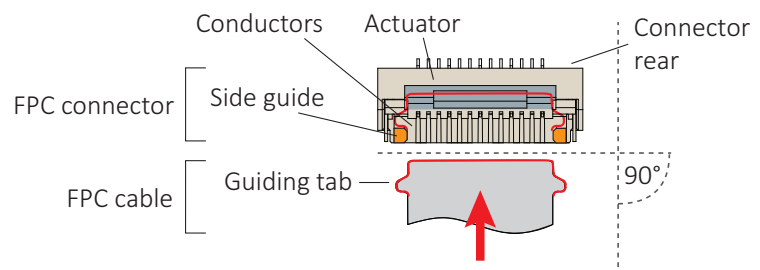
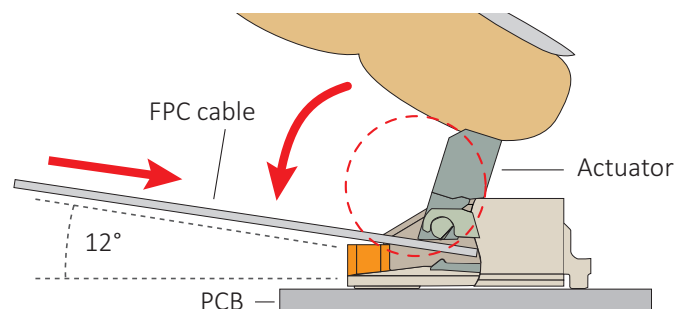

Figure 85: FPC cable and FPC connector
Figure 86: Engaging the FPC cable in the FPC connector
2. **Ensuring proper cable direction between host and camera**, take the FPC cable with conductors facing the FPC connector conductors (see Figure 85).
At a horizontal angle of 90 degrees to the connector's rear (see Figure 85) and at a vertical angle of 12 degrees to the PCB (see Figure 86), slowly insert the FPC cable into the actuator...
4. ...until cable guiding tabs are caught between connector rear and side guides (see Figure 85). Pull the cable slightly to ensure guiding tabs are properly engaged.
5. Holding the FPC cable in position, flap down the actuator to closed position (see Figure 86).